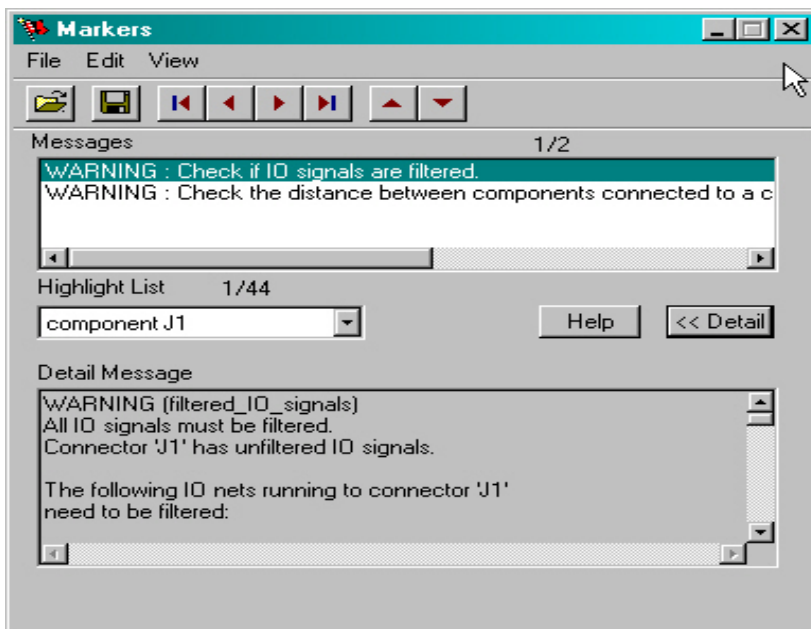

Figure 8 View violations within a design
- Highlight an individual violation within the design, as shown in Figure 8.